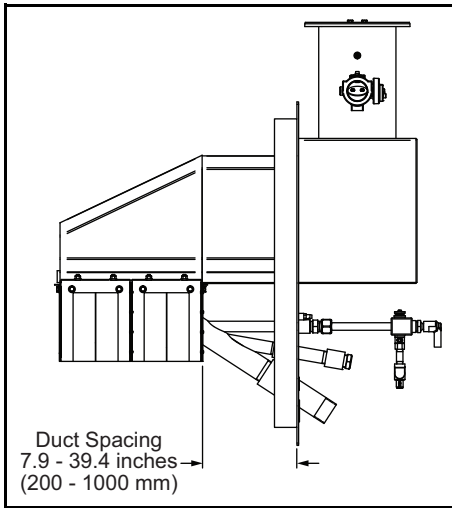

Figure 3.3. Duct Spacing Options
- **Duct Spacing:** The burner can be positioned in the duct with the duct spacing dimension, as shown in Figure 3.3 on page 9. The dimension can be selected from 7.9 - 39.4 inches (200 - 1000 mm) in 3.9 inch (100 mm) increments.